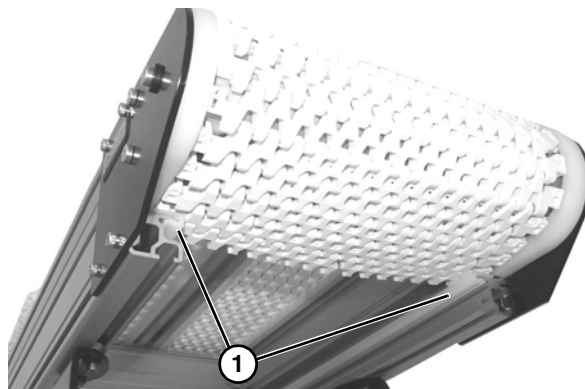

Figure 8
3. Install belt around lower frame section and above lower wear strips (**Figure 8, item 1**).